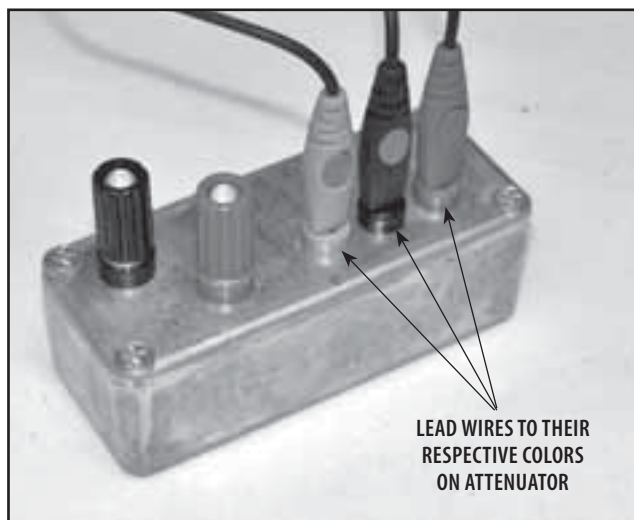

FIGURE 5.38
4. Connect the sEMG Lead Wires into the Attenuator. Make certain the sEMG Lead is connected to its respective color on the Attenuator. See Figure 5.38.